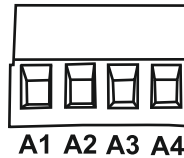

Fig. 8
For PCB Mounted Terminal Connector: (Refer Fig. 8)
- 6) Fit the wires removed earlier from the PCB mounted terminal connector in their correct positions. (Refer Fig. 8 on Page 10).  After making the wire connections, please verify them again as wrong connections can cause short circuit and damage the PCB.